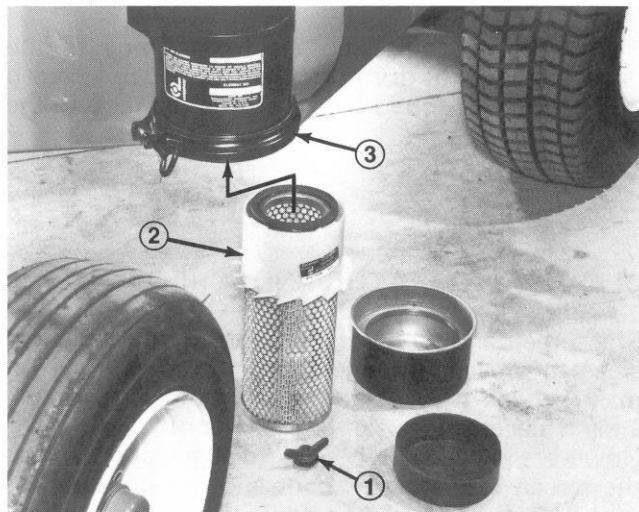

Figure 44
2. Remove wing nut w/gasket and slide filter element out of air cleaner body (Fig. 44).